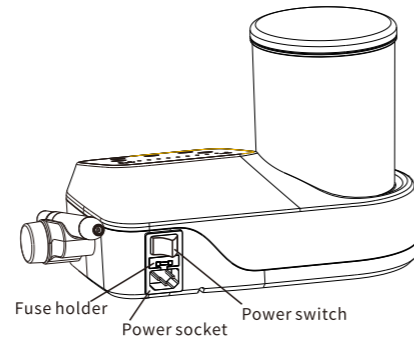

Figure 2 Main Unit Rear Schematic Diagram
- 6) Set the power switch of the main unit to OFF state, then connect the output terminal of power line to the main unit, and connect the input terminal of power supply to the mains supply (as shown in Fig. 2).